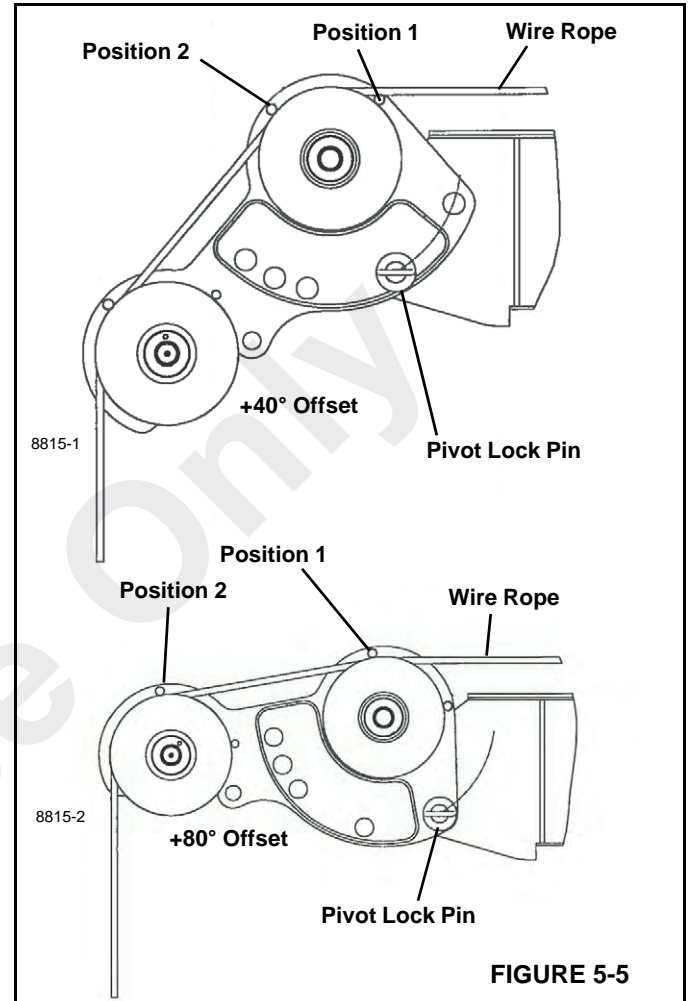

FIGURE 5-5
8. When offsetting boom head (Figure 5-5) to +40° run rope above retention pin 1 to position 2 and run rope between pin 2 and sheave wheel.
9. When offsetting boom head (Figure 5-5) to +80° run rope above retention pin 1 to position 2 and run rope between pin 2 and sheave wheel.
10. After installing the rope retention pin and retaining clip into the boom head (Figure 5-5). Check that the wire rope is not contacting retention pin at the top of the boom head.